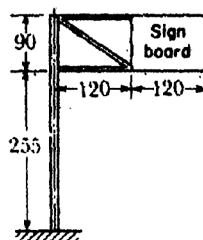

Fig. 6(a)
- 6(a) A hollow steel pipe is to be used as a standard to support a highway road sign as shown in Fig. 6(a). The maximum wind pressure on the face of the board is assumed to be 250 kg/m^2 . The standard is unsupported laterally and its outside-to-inside diameter ratio is 1.12. The allowable working stress in shear is given as $\tau_w = 600 \text{ kg/cm}^2$. Calculate the required outside diameter d of the pipe.